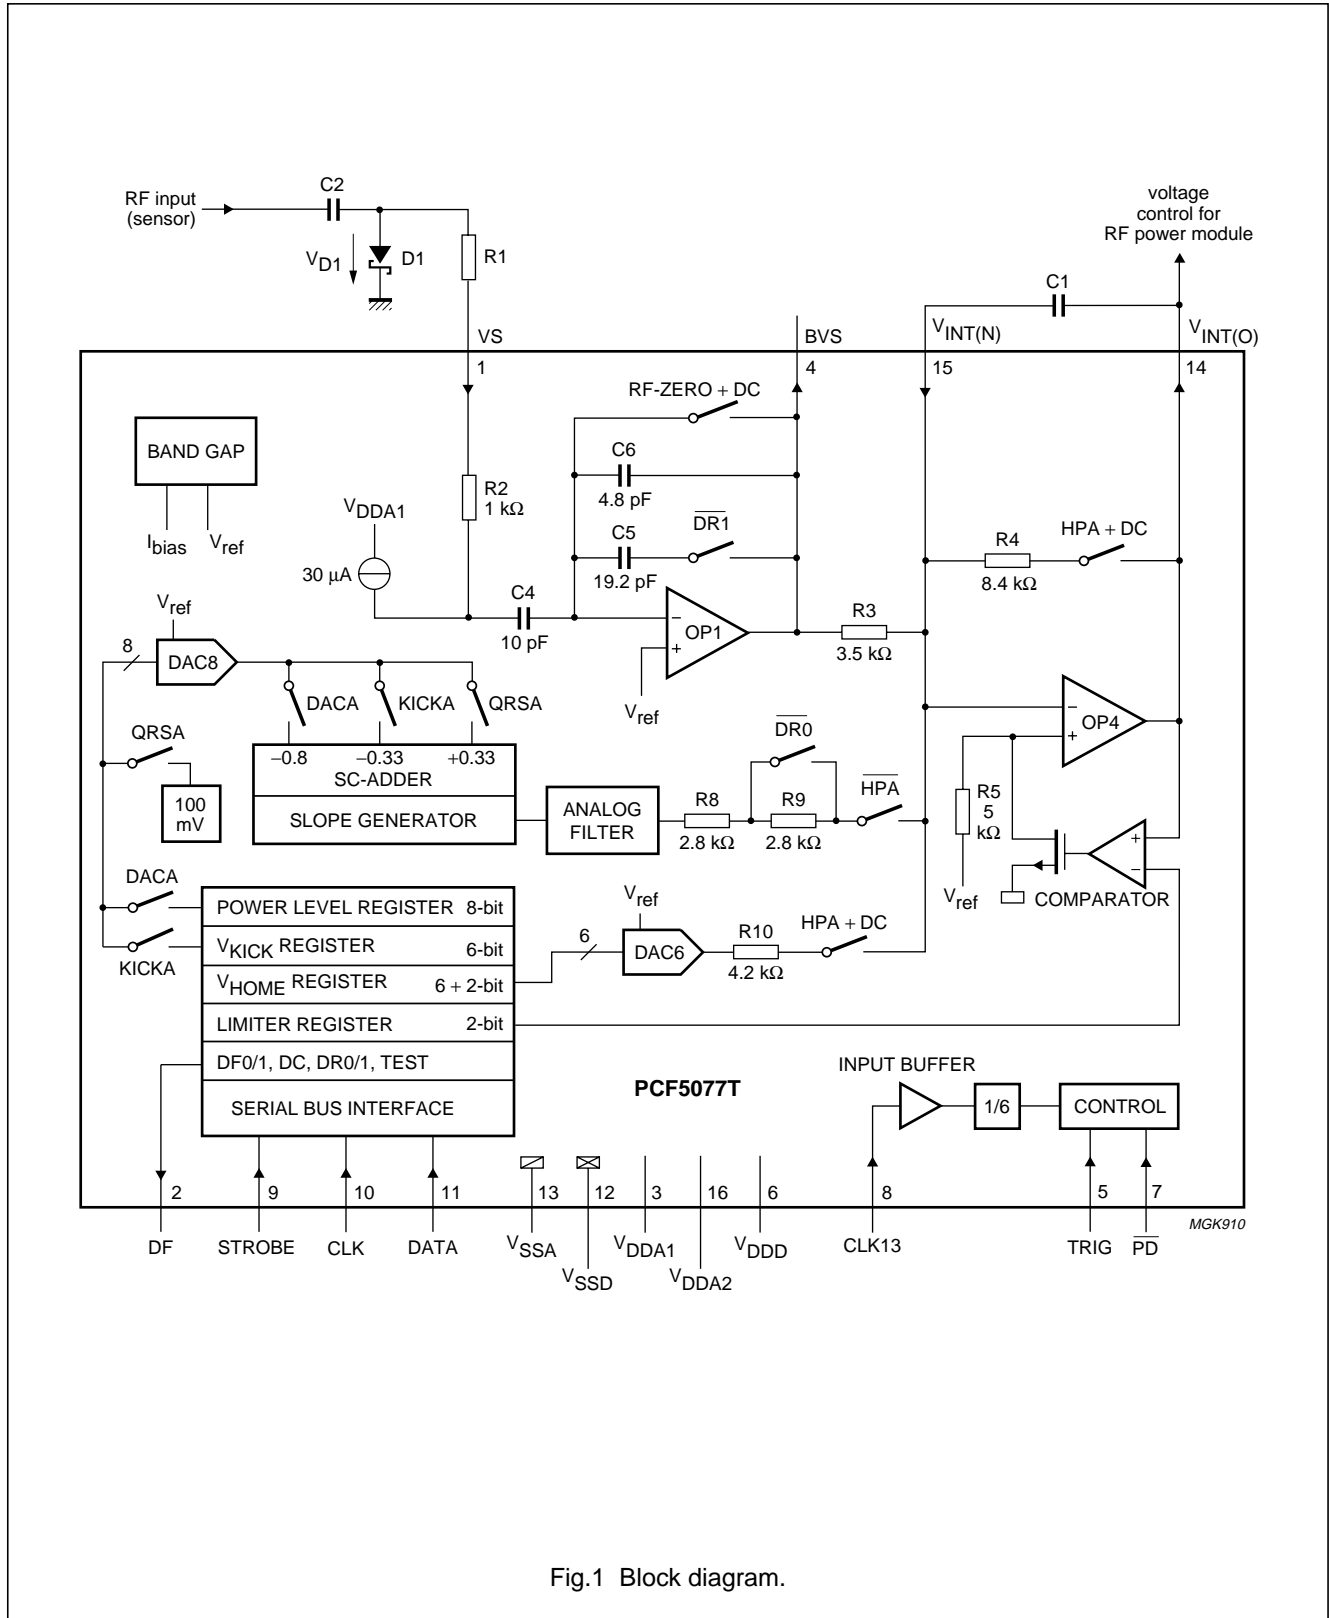

Fig.1 Block diagram.
This CMOS device integrates operational amplifiers, two digital-to-analog converters and a serial bus interface to implement an 'Integrating-Controller' (see Fig.1). It is designed to control both the power level and the up- and down-ramping of GSM/PCN transmit bursts.
- The external capacitor C1 in Fig.1 determines the maximum bandwidth of the power control loop,
**Table 1** Definition of some voltages used in Figs 1 and 3